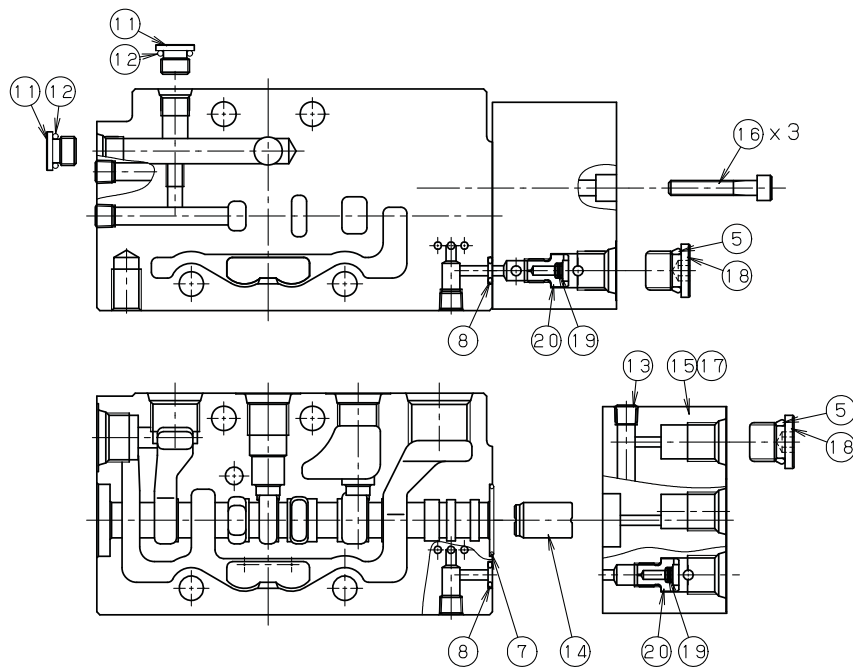

Fig.19 P3 conflux component
**Body-pilot, piston and plugs for P3 conflux component (see Fig.19).**
- ① Install O-rings (7, 8) securely into O-ring grooves on the body.
- ② Insert piston (14) into spool sleeve with caution in the direction.
- ※ Piston (14) is to be inserted with small-diameter side (stepped side) facing the spool sleeve.